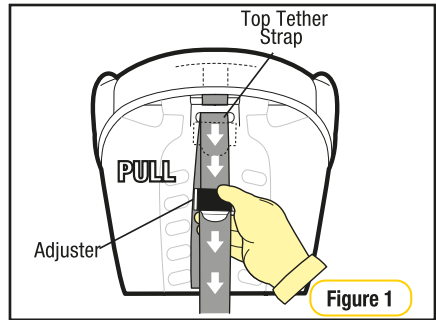

Figure 1
**Step 1:** Pull adjuster and strap to extend the location of the adjuster assembly (refer Figure 1).